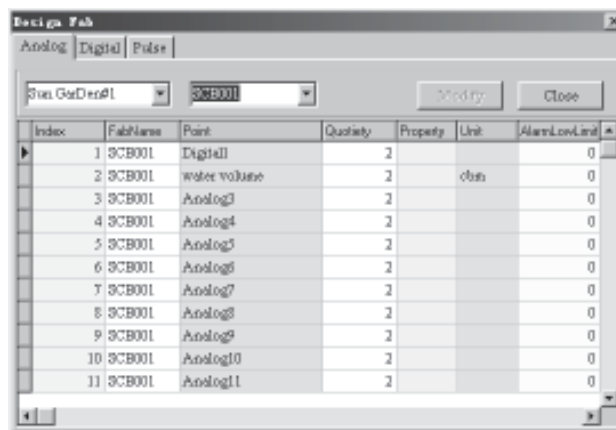

Fig. 4-11 Defining the FAB I/O Ports
Step 2. Click the name of the station to be controlled and the name of the port to be detected, the resources, signals and corresponding message of the FABs at the station will be displayed automatically. For example, in Interface 4-10, click Station Name ;°Sun Garden #1;± and FAB Name ;°SGB001;± the interface as in Fig. 4-11 will be displayed.